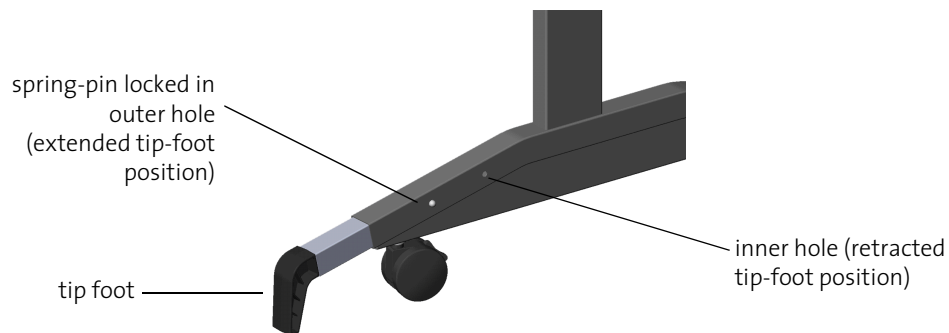

Figure 1-1 Securing the upright bases
1. On the two uprights, pull the four tip-feet out from the bases and snap them into place in their extended position (Figure 1-1). Make sure that the spring-pins are locked in the outermost of the two holes.